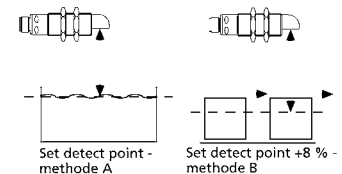

Fig. 3: Setting the detect point for different directions of movement of the object
■ If the object to be scanned moves into the detection area from the side, the »Set detect point +8 % - method B« Teach-in procedure should be used. In this way the switching distance is set 8 % further than the actual measured distance to the object. This ensures a reliable switching distance even if the height of the objects varies slightly, see fig. 3.